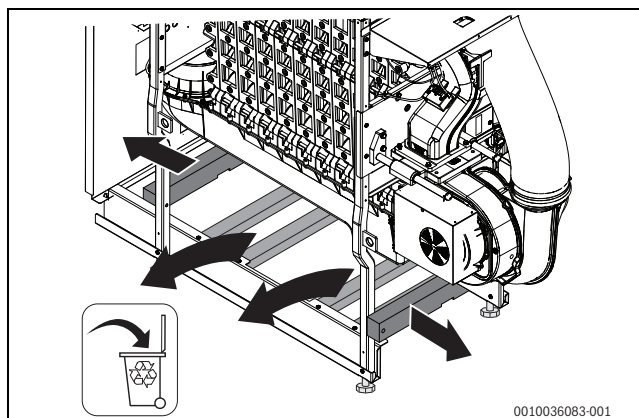

Fig. 17 Remove the transport timbers (example for illustration purposes)
- ▶ Remove the 4 transport timbers between the tie bars (→Fig. 17).
- ▶ Remove the front and rear cross bars on the boiler frame (→Fig. 17).